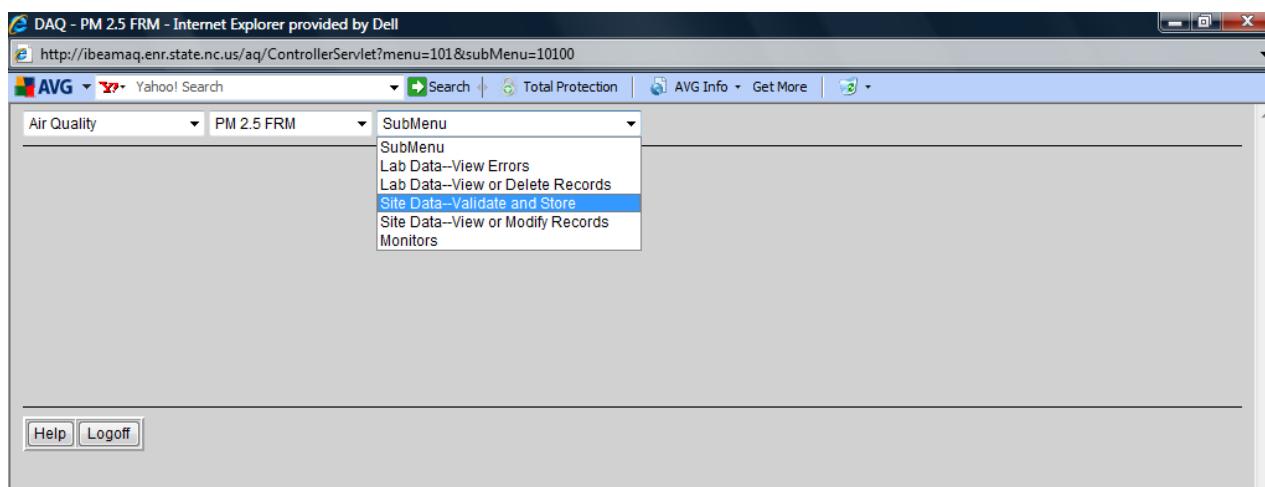

Figure 29. IBEAM Validate and Store.
- From the third drop down menu, choose “Site Data- Validate and Store”. The IBEAM Validate and Store screen should now be visible (Figure 29).